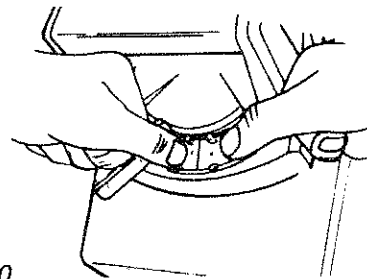

Fig. 60
21. Install bevel scale indicator by inserting one end into the opening in the yoke. Slide the indicator to one side and push until it snaps in place. Tabs are located on the outside of the opening. Adjust indicator by sliding red line to 0° position. (Figure 60)